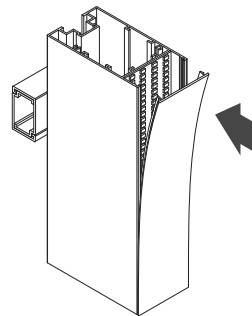

Figure 7a
- Starting at one end, align and compress the flexible legs of the diffuser lens into the snap fit channel of the STYX™ front light profile. Progressively install the diffuser lens down the length of the stick. (Figure 7a)